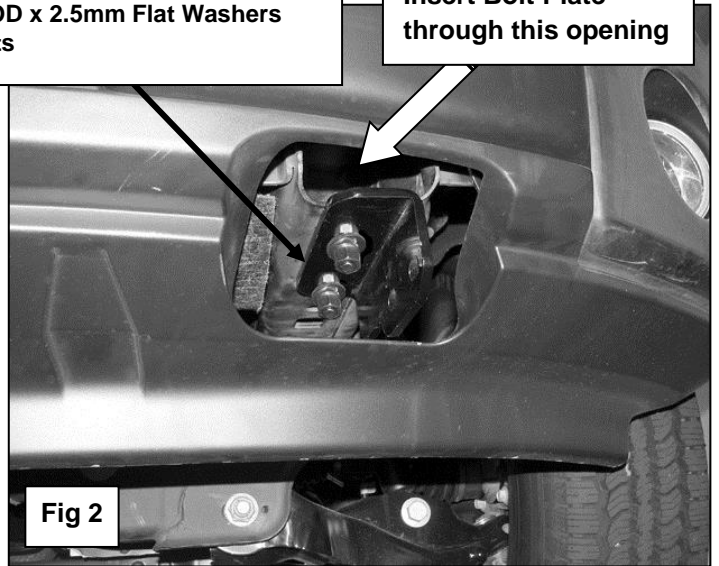

Fig 2
Starting on the driver side of the vehicle, insert (1) 12mm Bolt Plate through the opening in the open front end of the frame and down through the rear hole in the bottom of the frame, **(Figure 2)**. Thread (1) 12mm x 24mm OD x 2.5mm Flat Washer, (1) 12mm Lock Washer and (1) 12mm Hex Nut onto the threaded end of the Bolt Plate. Slide the slotted end of the driver side Mounting Bracket under the nut and washers. Insert the second 12mm Bolt Plate through the remaining hole toward the front of the Mounting Bracket. Secure with (1) 12mm Lock Washer, (1) 12mm x 24 mm OD x 2.5mm Flat Washer and (1) 12mm Hex Nut. Snug but do not tighten the hardware at this time.